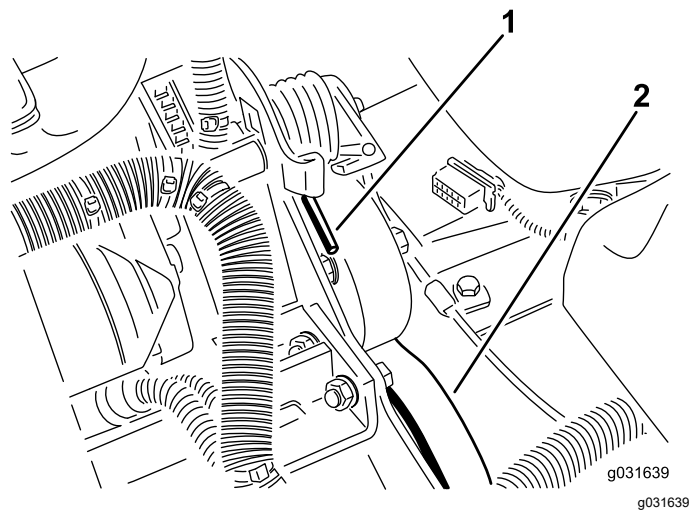

Figure 61
2. Push down and forward on the spring end to unhook it from the bracket and release tension on the spring (Figure 61).